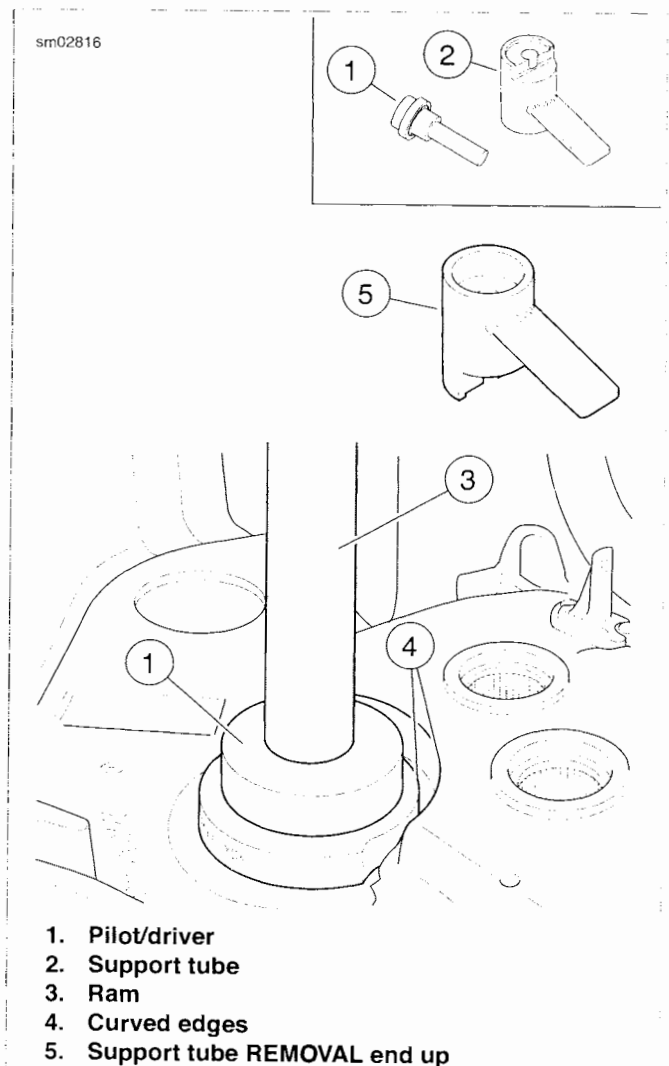

Figure 3-142. Right Crankshaft (Roller) Bearing Removal
1. See Figure 3-142. Obtain CRANKSHAFT (ROLLER) BEARING REMOVAL/INSTALL PILOT/DRIVER (Part No. HD-44065-1) and CRANKSHAFT (ROLLER) BEARING REMOVAL/INSTALL SUPPORT TUBE (Part No. HD-44065-4).
2. Place support tube (2) on hydraulic press table with the REMOVAL end up. Note that the sides of the support tube are stamped to ensure proper orientation.
3. With the inboard side of the right crankcase half facing upward, position crankshaft bearing bore over support tube. During removal it is important that the curved edges on the pilot/driver (1) match the curved edges of the crankcase (4).
4. Slide pilot/driver (1) through bearing into support tube.
5. Center pilot/driver under ram (3) of press. Apply pressure to pilot/driver until bearing is free.